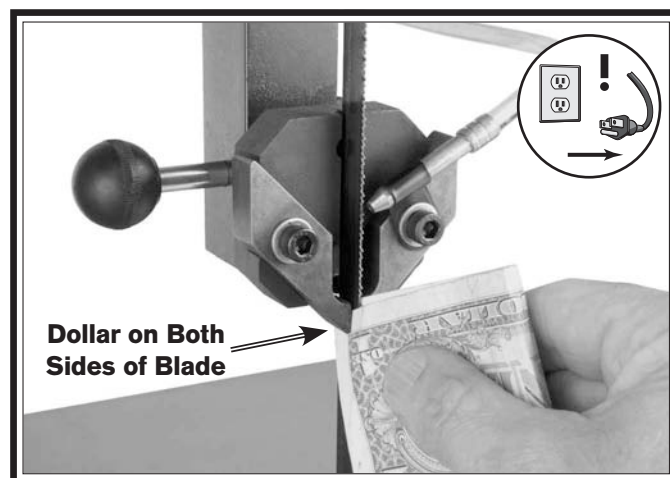

Figure 22. Using a dollar bill to set blade guide spacing (blade guide cover removed for clarity).
9. Fold a crisp dollar bill in half and place it over the blade (between the blade guides and the blade), as shown in **Figure 22**.